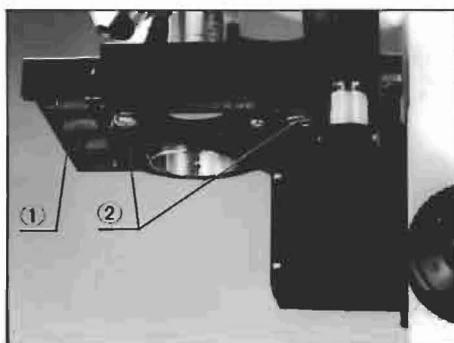

Fig. 4
Mount the mechanical stage on the plain stage (1) in a manner that the specimen traversing guide of the mechanical stage is located closest to the pillar, and tighten the stage clamping screws (2) with a coin. (Fig. 4)